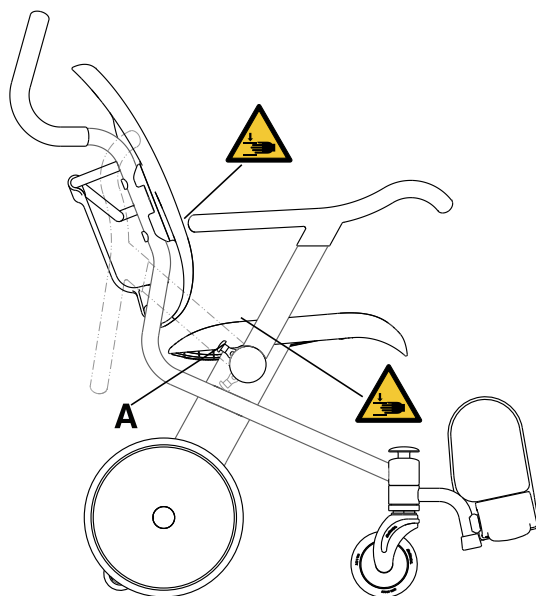

Figure 10: Pinch points when raising armrests and lowering armrests
To raise the flip-up armrests (rear position), pull outward on the yellow armrest release button (A) and raise the flip-up armrest until the armrest reaches the hard stop (Figure 10 on page 18).
To lower the flip-up armrests (forward position), make sure that the occupant is clear of the flip-up armrest. Lower the flip-up armrest into the forward position until the armrest latches securely (Figure 10 on page 18).